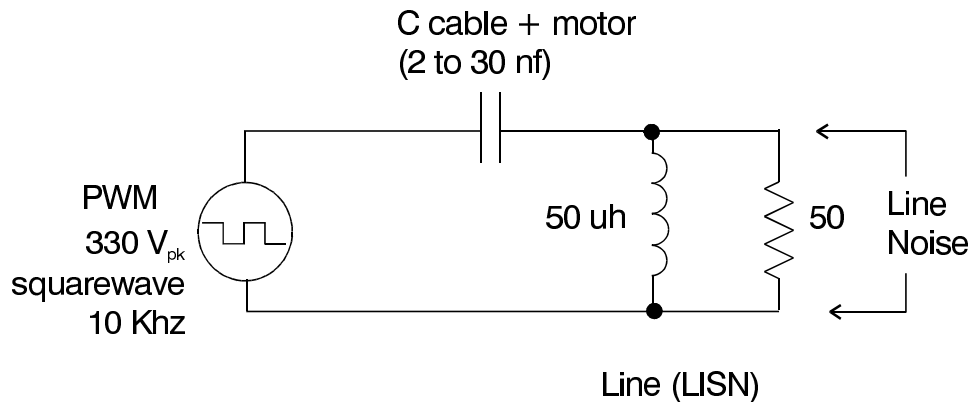

Figure 8 - Common Mode Circuit Model
From a common mode (CM) viewpoint, the inverter can be modeled as a squarewave generator, switching at the PWM frequency, with an amplitude of the bus voltage as shown in Figure 8. The PWM generator drives the line through a high pass filter, where C is the sum of the motor winding-to-case and cable wire-to-shield capacitance, and parallel RL is the model of the line impedance.